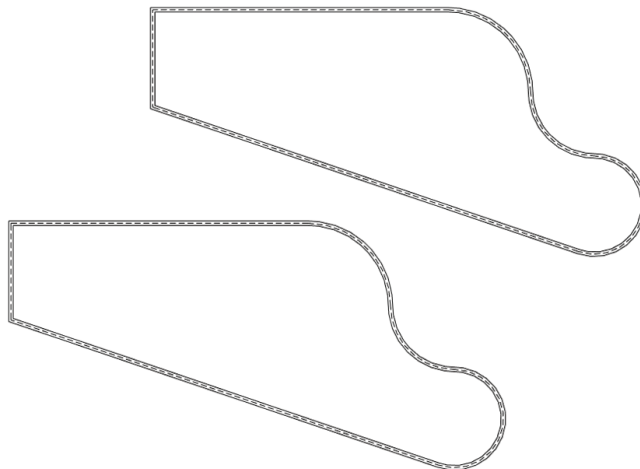

FIGURE 2.8 Result of Pick Lines
10. On the second set of lines, use the chain-select method to place all the wall segments at once. Hover your mouse pointer over one of the line segments, and press the Tab key once. When the chain of lines is highlighted, click the mouse button to place the complete chain of walls. Your results should look like the plan shown in Figure 2.8.